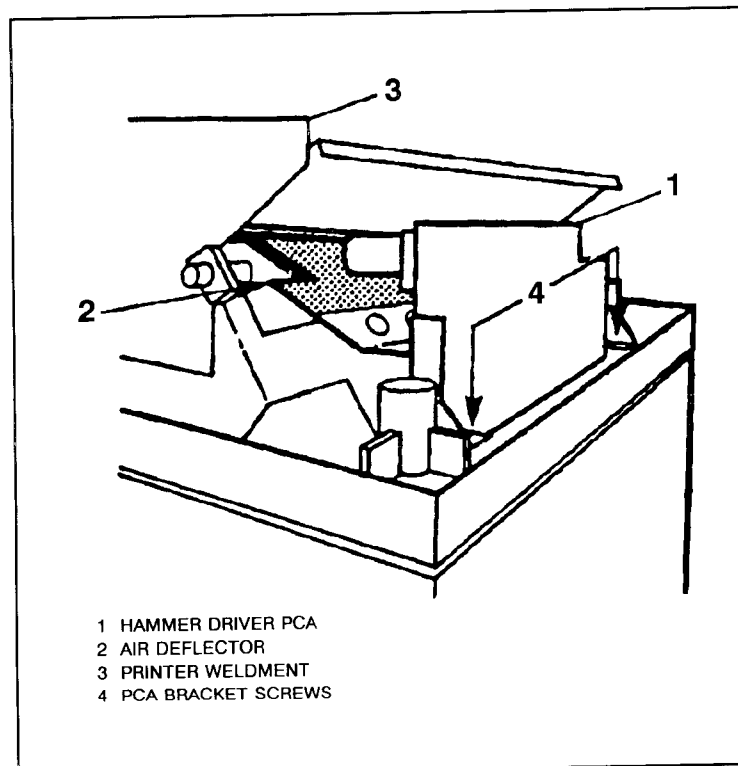

Figure 6-7. Hammer Driver PCA Air Deflector Placement
- b. From each end, remove the screw which holds the PCA bracket to the printer base (Figure 6-7, item 4).
When replacing the PCA, it is IMPORTANT that the plastic shield (Air Deflector) be positioned as shown in Figure 6-7. This shield is required to direct air flow over the printbar to maintain proper cooling.